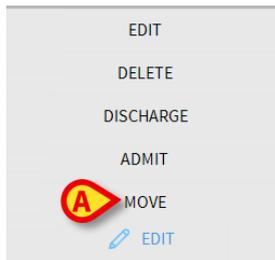

Fig 112
A menu containing different options opens (Fig 112).
The **Move** button (Fig 112 **A**) makes it possible to register the transfer of the patient selected to a different bed and/or a different location.
A drop-down menu containing various options opens (Fig 112).
- Click the **Move** button (Fig 112 **A**)